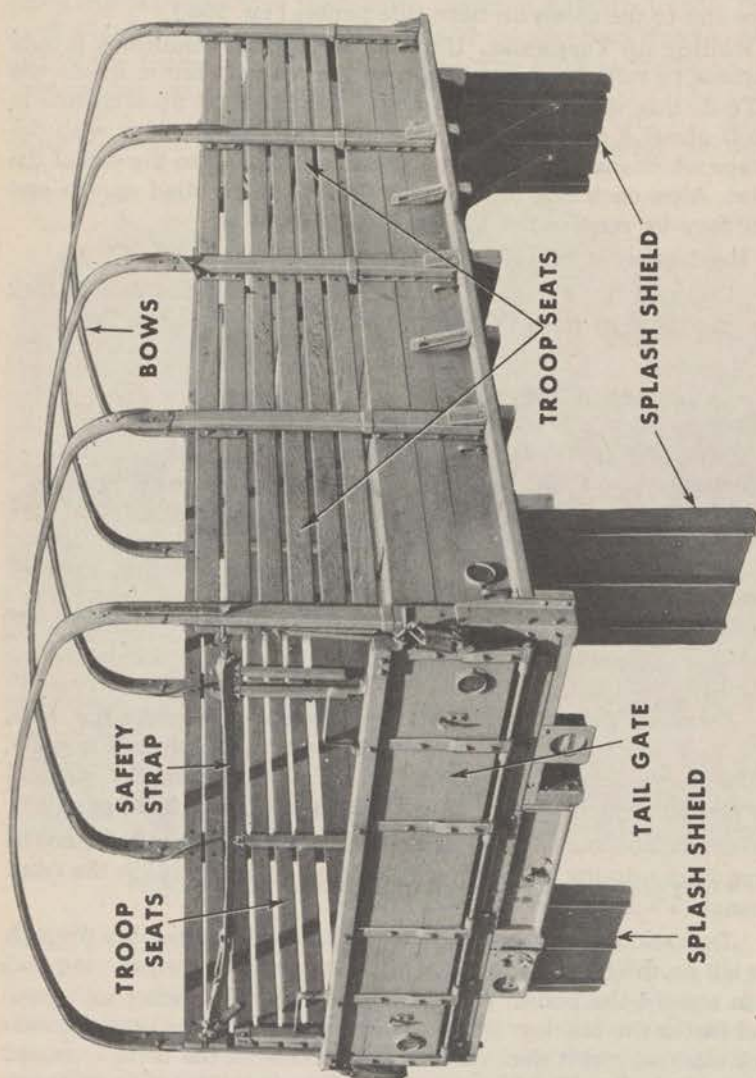

Figure 167—Ponton Body
a. **Description** (fig. 167). The ponton body is very similar to the cargo body, except that it is longer, has four sections of troop seats instead of two, has a front stake assembly, and has the spare tires mounted on the outside of the body.